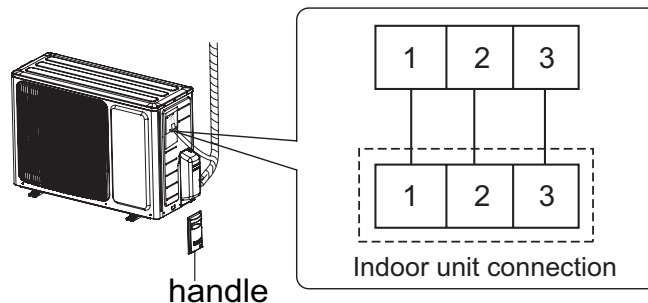

Fig.23
- (1) Remove the wire clip; connect the power connection wire to the wiring terminal a; fix them with screws.(As show in Fig.23)